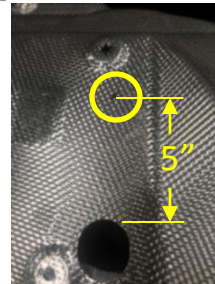

Figure 2
- Remove heat shields** - Using a 10mm socket remove the nuts holding the heat shield, using a 7mm socket remove the screw holding the heat shield to the wheel well liner, remove the heat shield. Cut a 1.5" hole forward of the forward attachment in the heat shield to clear the middle fastener for the hitch, see **Fig. 2**. Set fasteners aside for reinstallation.
- Remove Kick Sensor (If applicable)** – Using a 1/4" drill bit remove the center (4) rivets holding the kick sensor in place.